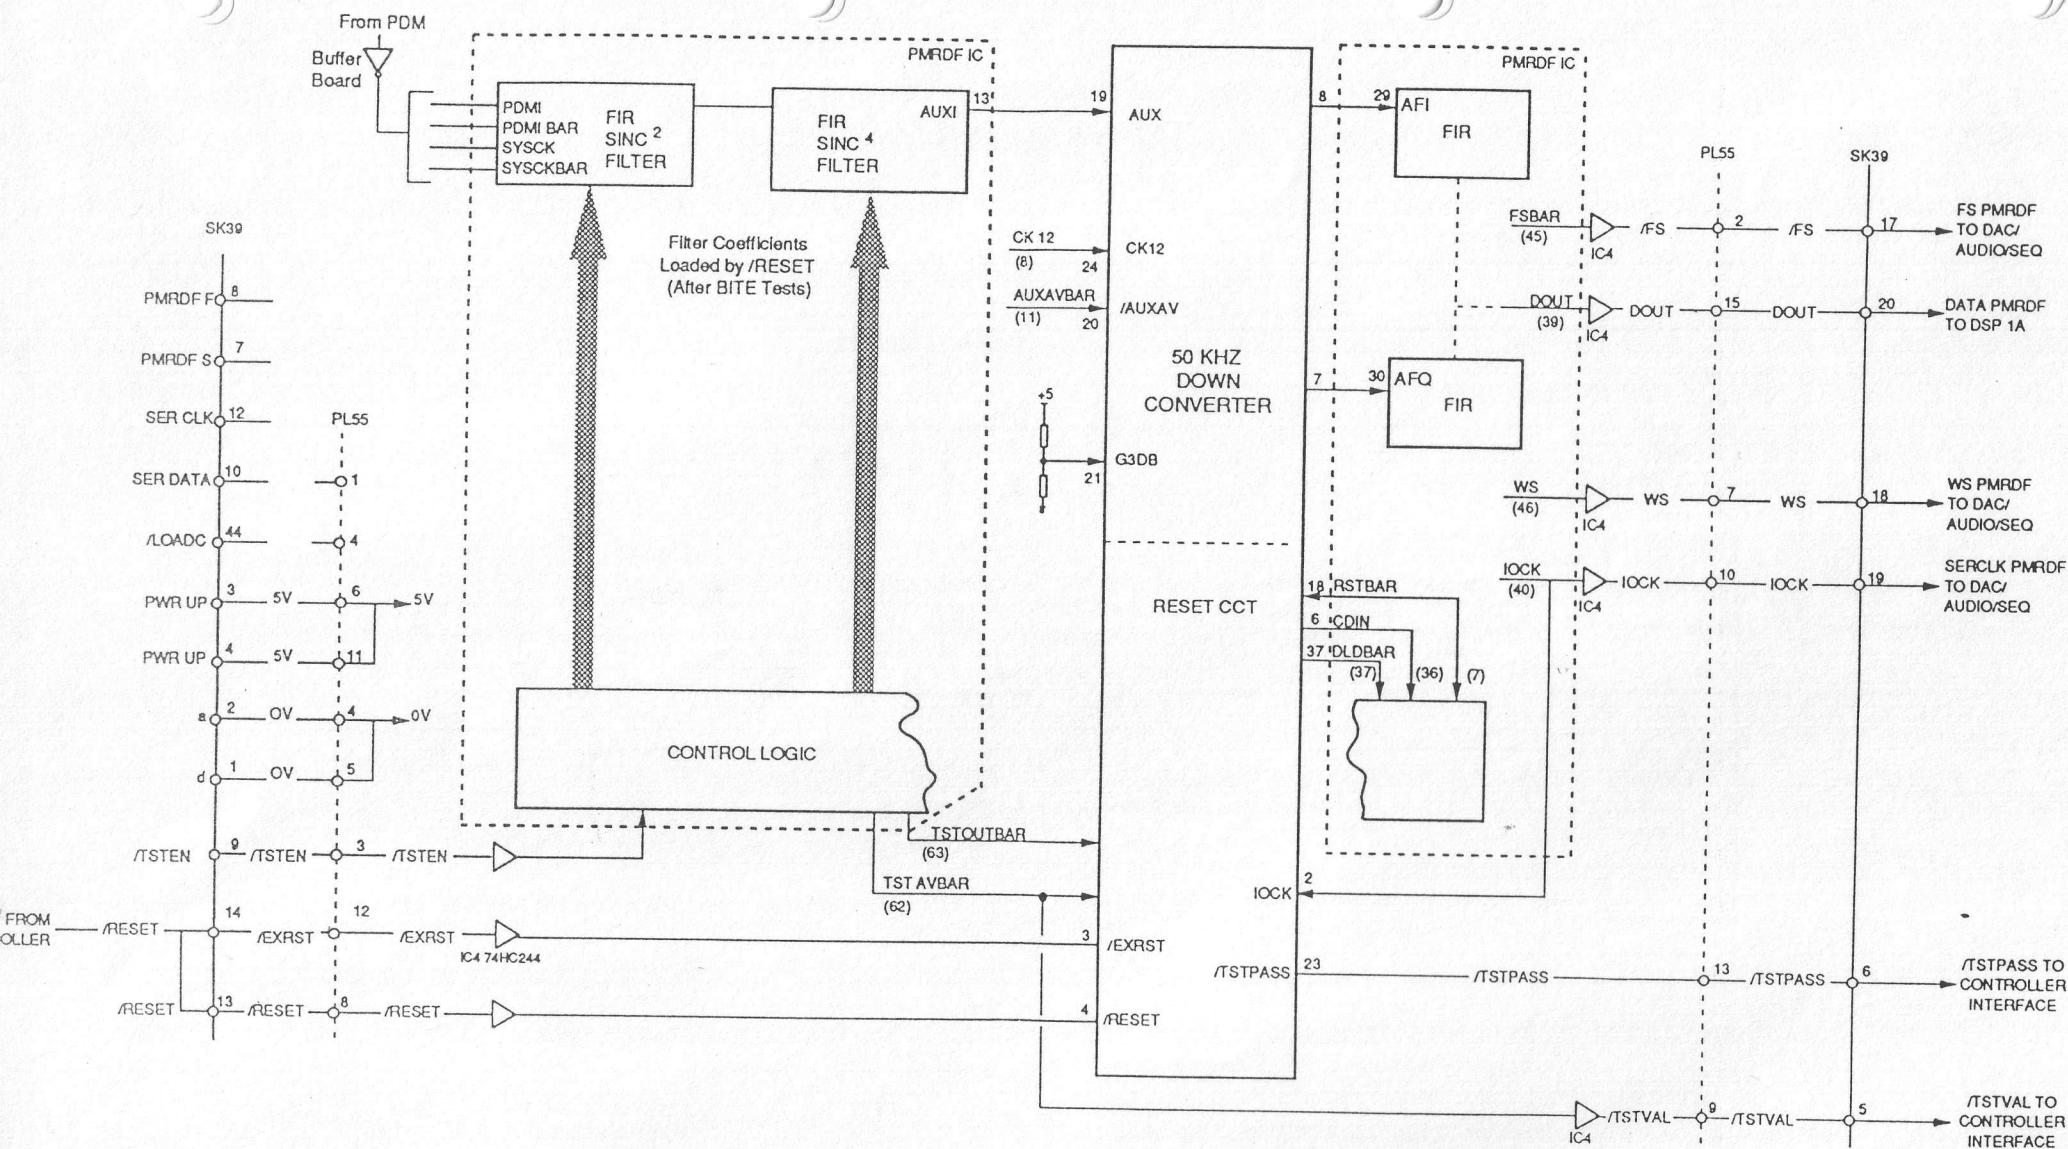

Figure 3 - Digital Filter (PMRDF) Block Diagram
- Figure 3 Digital Filter (PMRDF) Block Diagram
The PMRDF has built in self test procedure controlled by the PAL. An output from the PAL is sent to the radio's control processor to confirm that the PMRDF and PAL have passed their self tests. The self test procedure is initiated each time the ADC receives a $\overline{\text{TSTEN}}$ signal. Figure 3 shows the distribution of the control and self test signals and Table 1 describes the BITE and Control Signal functions.